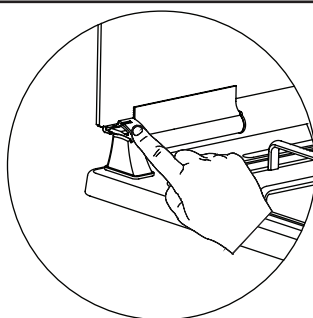

Figure 2
- 2.** As shown in figure 2, the glass door can be closed by pressing the plastic clip with a finger.